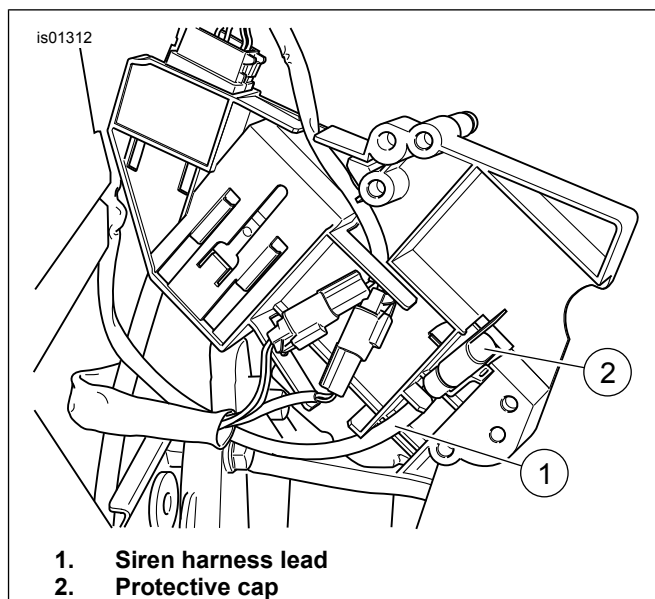

Figure 11. Siren Wire Harness (2002-2007 FL Touring)
- Refer to Figure 11. Remove the siren harness lead (1) from the back of the electrical bracket, and take the protective cap (2) off of the security siren connector [142B].